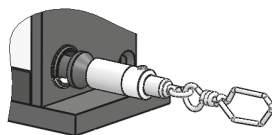
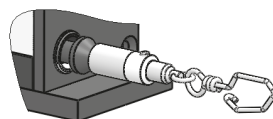

Fig. 5: Wire hook closed
Fig. 6: Wire hook opened
Mounting the wire hook (Fig. 5, Fig. 6):
2. Mount the wire hook in the closed (see Fig. 5) or opened (see Fig. 6) condition.
3. After mounting with the wire hook opened closed the wire hook again (see Fig. 5).